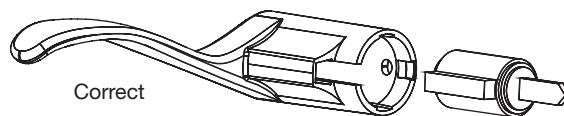

Figure 3A
- A. Insert key in cylinder (outside lever handle); rotate key 90° clockwise.
- C. Insert cylinder in "new" outside lever (Fig. 3A).
NOTE: "Sloop" of lever handle must be oriented in upward direction as shown in Fig. 3A